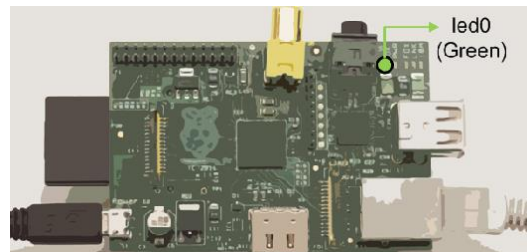

Figure 13: LED0 on Raspberry Pi board
- The build process automatically starts / runs the executable on the Raspberry Pi as can be observed from the blinking LED (LED0) on the Raspberry Pi (**Figure 13**).
10. Once the program starts running you should see the blinking LED (**Figure 13**).